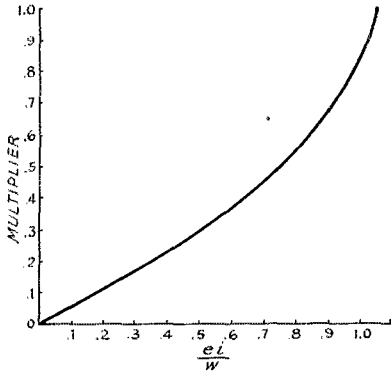

Fig. 2
watts by any misadjustment of the circuit, even including such mistakes as removing plate voltage entirely. (In this, and in all other formulas to follow, currents must be expressed in amperes, voltages in volts, and resistances in ohms.) From expression (1) it turns out that for most tubes, a may be chosen anywhere within a considerable range of values without the maximum possible screen dissipation exceeding the allowable value. One thing of interest is to find out how small a can be made without danger of exceeding the allowable screen dissipation, because the smaller a can be made the better the screen voltage regulation. This can be found as follows: Let W be the allowable watts screen dissipation while ei is of course the normal screen dissipation. (To play extra safe W can be taken somewhat smaller than the maximum rating if desired.) Then the smallest safe value for a is obtained by multiplying the quantity $E/2i$ by the multiplier given by Fig. 2. Once the value of a is decided upon, b may be obtained from the formula
That is all there is to it. To show how the calculation is made in a particular case, consider the 813 tube acting as a grid-modulated amplifier. From the tube instruction sheet we find $E = 2000$, $e = 400$, $i = 0.003$, and $W = 15$. Let us decide to play extra safe and take W as 10 watts. Then $ei/W = 0.12$ and from Fig. 2 the multiplier is
Having now obtained some values for a and b that will make the screen safe under any and all conditions, let us see what sort of voltage regulation there will be. Under normal conditions, of course, the screen voltage will be 400. Now suppose that screen current is stopped completely, as by lack of excitation in the presence of cut-off bias. Then the voltage will become 2000 multiplied by the ratio $b/(a + b)$, or ± 12 volts. This is not much of a rise. In fact, it is so little that we had better start all over again and assume a much smaller value of W so as to come out with much higher values of a and b and thus not waste so much power in them, a thing especially to be avoided in case the voltage applied to a and b is modulated. So let us jump to the extreme case of setting W equal to the normal screen input. Then the screen input is always lessened when the adjustments of the transmitter depart in any way from normal. Taking ei/W as unity, Fig. 2 gives a multiplier of unity and a is found to be a third of a megohm. As a result, b must be two-ninths of a megohm. These resistances are now so great that there is not much power wasted in them, but the regulation is not as good as before. In fact, the screen voltage will be found to rise to twice its normal voltage in the absence of screen current whenever we take W as equal to the normal screen input in calculating a and b .
Equate expression (1) to a desired maximum possible dissipation W and solve for a and we find $a = \frac{E}{2i} \left[1 - \sqrt{1 - \frac{e^2}{W}} \right]$. The bracketed term of this is what has been plotted in Fig. 2.